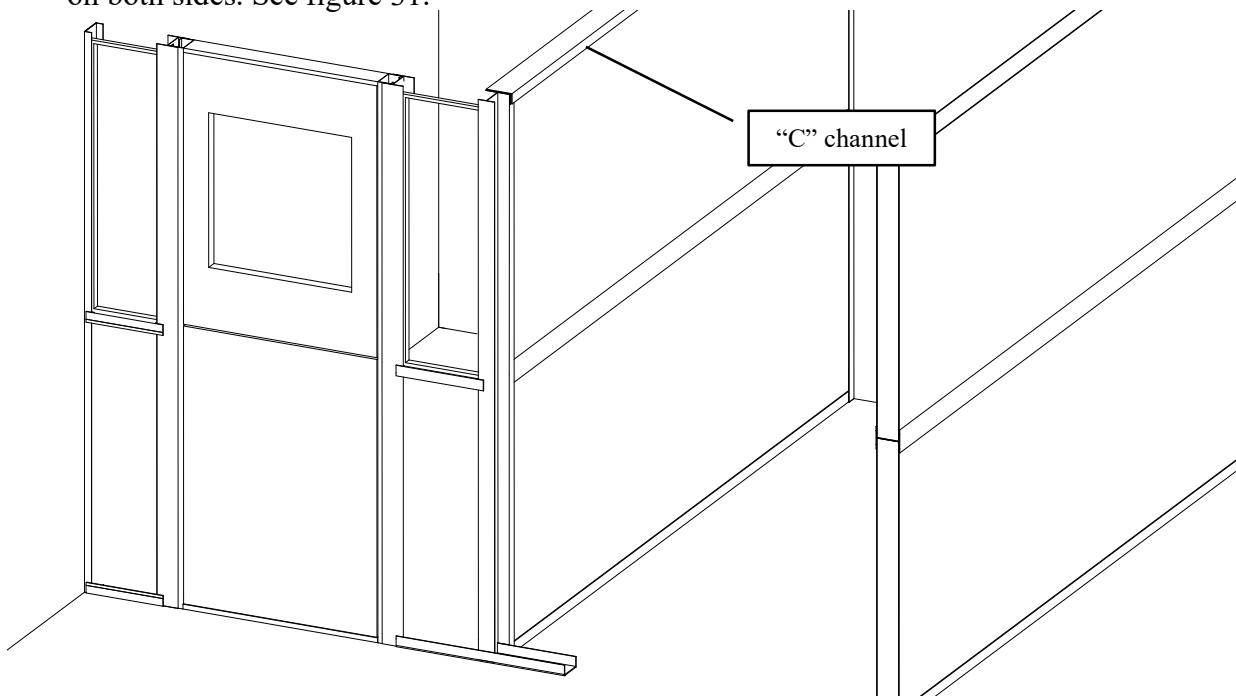

Figure 31
16. Place the “C” channel onto the top of the division panel. It should overlap the vertical extrusions on both sides. See figure 31.